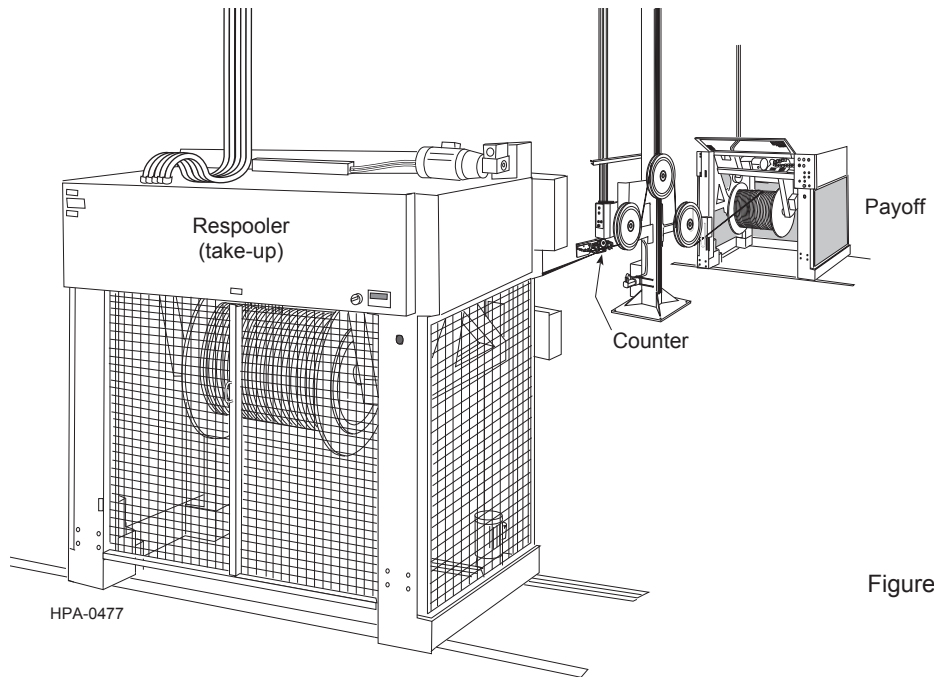

Figure 1
1.1 Improper use of a respooler (Figure 1) can cause damage to a cable jacket or result in wavy fiber in tight buffered cables due to cable crossovers or excessive tensile loading. This document provides a recommended procedure for cutting and respooling Corning Cable Systems fiber optic cables.
- a. Roll the reel under the payoff so that the cable comes off the top of the reel towards the counter and respooler (takeup) (see Figure 1).